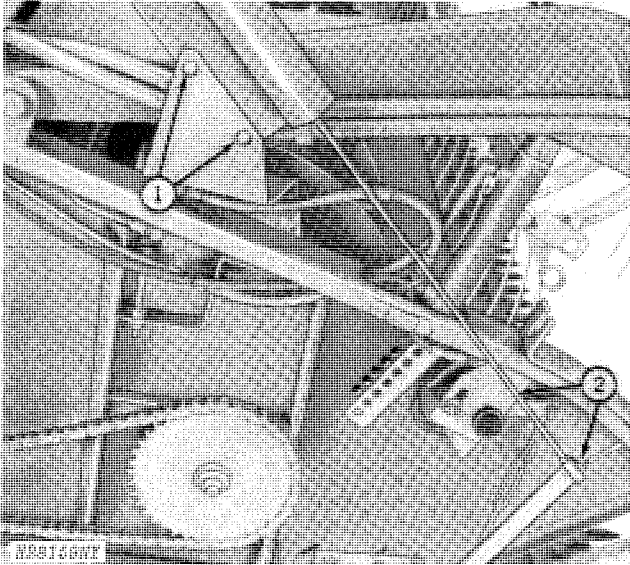

Fig. 66-Installing Range Indicator
1. Attach indicator housing to mounting bracket with two 5/16 x 3/4-inch round head bolts, flat washers, lock washers and nuts (Fig. 66).
2. Slide range indicator rod with ball attached into indicator housing (Fig. 66). Attach indicator rod to indicator arm with a 3/8-inch fine thread nut.